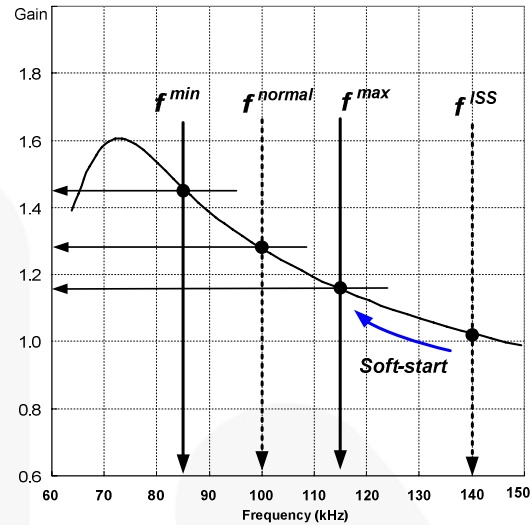
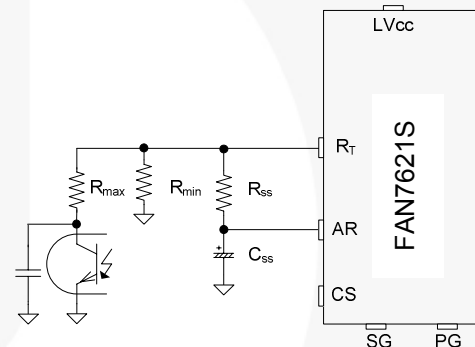
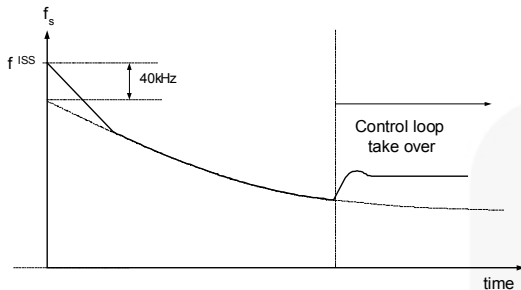

Figure 17. Resonant Converter Typical Gain Curve
Figure 18. Frequency Control Circuit
Figure 19. Frequency Sweeping of Soft-Start
3. Frequency Setting: Figure 17 shows the typical voltage gain curve of a resonant converter, where the gain is inversely proportional to the switching frequency in the ZVS region. The output voltage can be regulated by modulating the switching frequency. Figure 18 shows the typical circuit configuration for R_T pin, where the optocoupler transistor is connected to the R_T pin to modulate the switching frequency.
To prevent excessive inrush current and overshoot of output voltage during startup, increase the voltage gain of the resonant converter progressively. Since the voltage gain of the resonant converter is inversely proportional to the switching frequency, the soft-start is implemented by sweeping down the switching frequency from an initial high frequency (f^{ISS}) until the output voltage is established. The soft-start circuit is made by connecting R-C series network on the R_T pin, as shown in Figure 18. FAN7621S also has an internal soft-start of 3ms to reduce the current overshoot during the initial cycles, which adds 40kHz to the initial frequency of the external soft-start circuit, as shown in Figure 19. The initial frequency of the soft-start is given as: